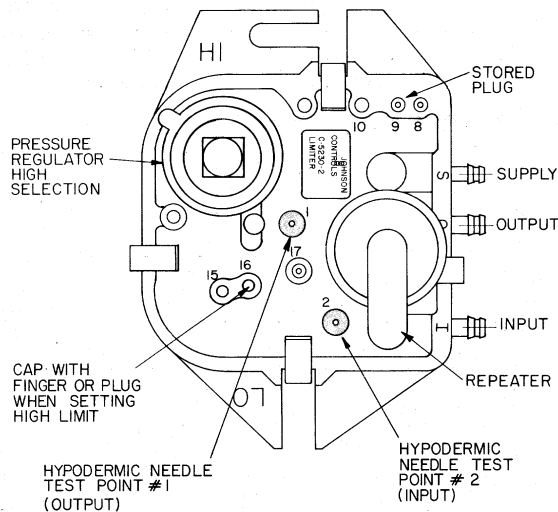

Fig. 8: C-5230-2
2. Insert a hypodermic needle test probe (X-200-140 ordered separately, connected to a 0 to 30 PSIG gage using a 1 in. length of polytubing) into output test point #1 (see Fig. 8).
### C-5230-2 Adjustments for High Limit Only (See Fig. 8)